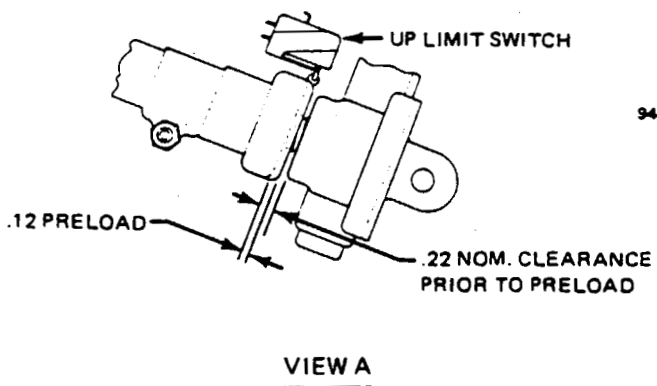

Figure 14-12. Condenser Air Scoop Installation
- b. Place the condenser and frame assembly to the fuselage frame mounting bracket and insert the (8) screws into the piano hinge.
- f. Seal all around forward cover panel (and aft cover panel if removed) with Permagum Bead No. 576 purchased from Prestolite Engineering Company. (See Figure 14-12.)
14-34. **CONDENSER DOOR ACTUATOR.** The actuator is on a bracket mounted between two bulkheads in the tail cone. It is coupled to the condenser assembly through a bellcrank mounted to a bracket on the bulkhead aft of the condenser. The actuator travel is controlled by two limit switches. Both the up and down switches are located on the actuator. Refer to Figure 14-12 for the switch locations.
14-35. **CONDENSER ASSEMBLY RIGGING INSTRUCTIONS.** (Refer to Figure 14-12.)
- a. Adjust open limit switch (5) to open the condenser door (8) $5.00 \pm .50$ inches when measured from the leading edge of the door to the fuselage skin.
- c. With the door fully closed adjust the "CLOSED" limit switch (6) so that the actuator (1) travels an additional .12 of an inch after the door is fully closed, this is necessary to preload the mechanism. Refer to Figure 14-12, View A-A.